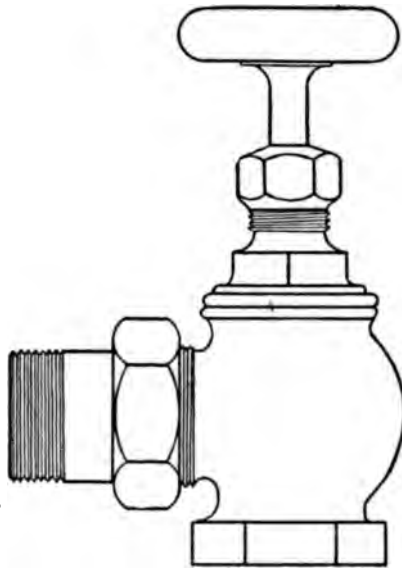

Fig. 87.—Steam Radiator Valve.
A. The ordinary type of valve employed in making connection to a steam radiator is an angle valve having a wood wheel and a union connection for attaching to the radiator. Fig. 87 shows an outline of the standard type of valve. The usual steam radiator valve has a Jenkins or composition disc.